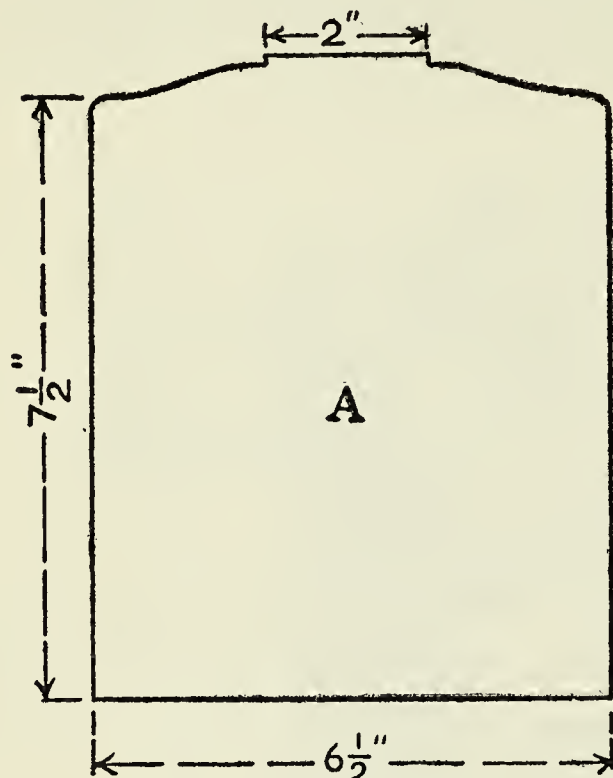

Fig. 163
strips (D) are given in Figures 163 to 166. Wood $\frac{3}{8}$ -inch thick is best for a rack of this size. Box boards will do. There is not much work to cutting